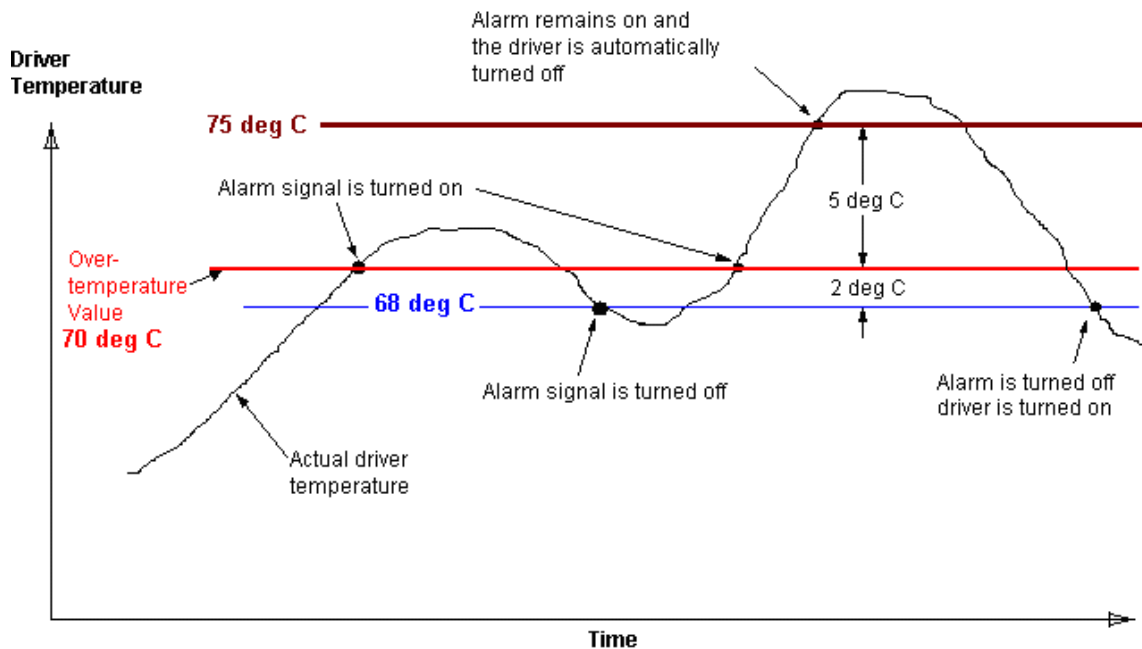

Figure 8.0
- 8) Over Temperature Shutdown: Determines whether or not the DMX-K-DRV disables when the temperature rises above a specified threshold. See Figure 8.0 for details.